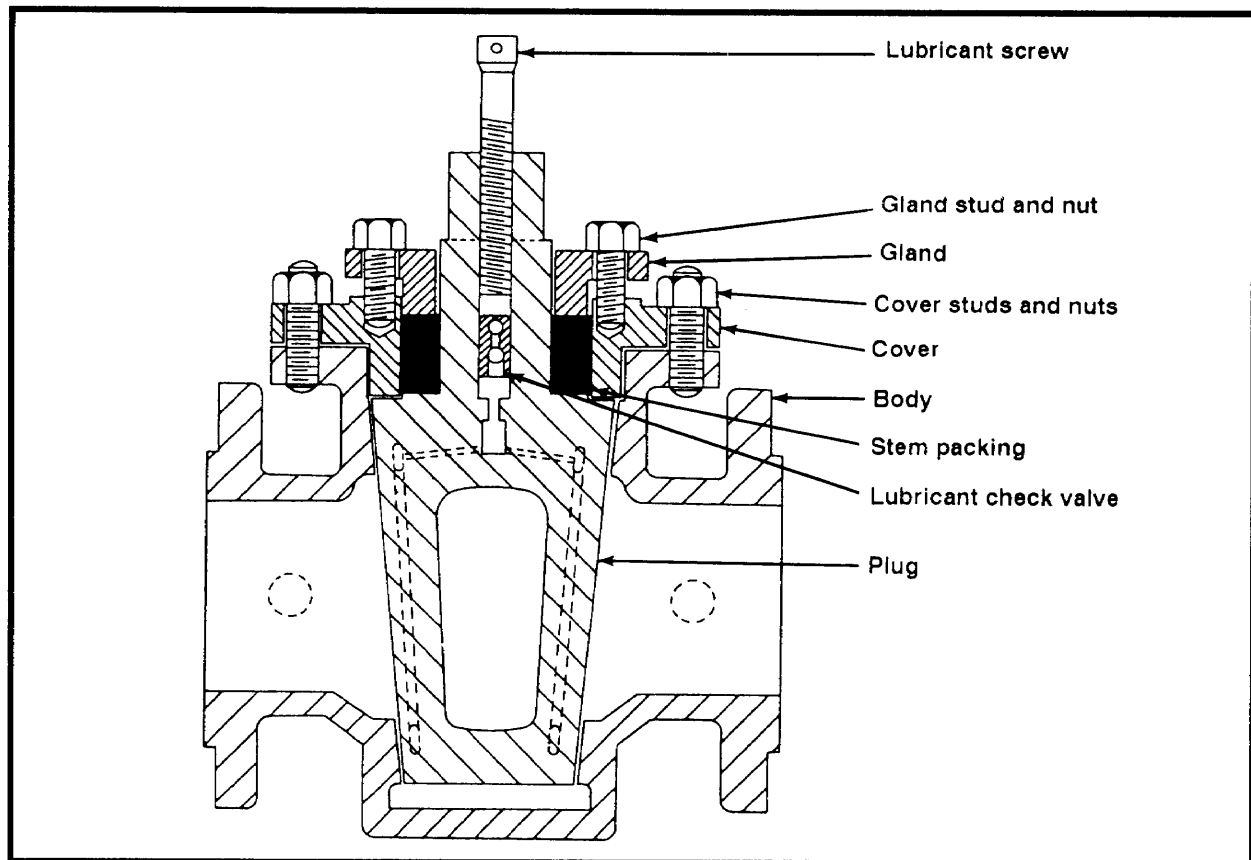

Figure 2-7. Lubricated plug valve
(3) Plug Valve. This valve has a revolving plug with an opening so that fuel flows when the opening is aligned with the pipe. Figure 2-7 (page 2-6) shows the structure of a typical lubricated plug valve. A plug valve opens or closes with a quarter turn of the plug. When the wrench is in place, it is easy to determine if the valve is open or closed. A plug valve is used in a tank farm manifold and on launchers and receivers where quick and positive closing of the valves is essential.